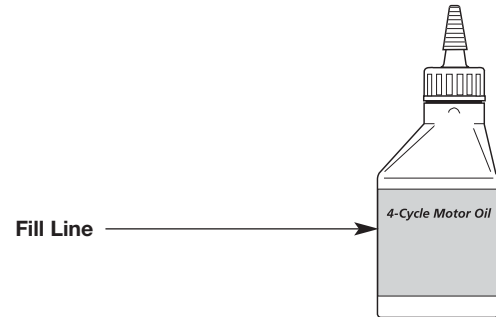

Fig. 14
**NOTE:** Use the empty oil bottle saved from the initial use to measure the correct amount of oil. Fill the oil bottle to the 2.03 fl. oz (60 ml) fill line indicated on the back of the bottle (Fig. 14).